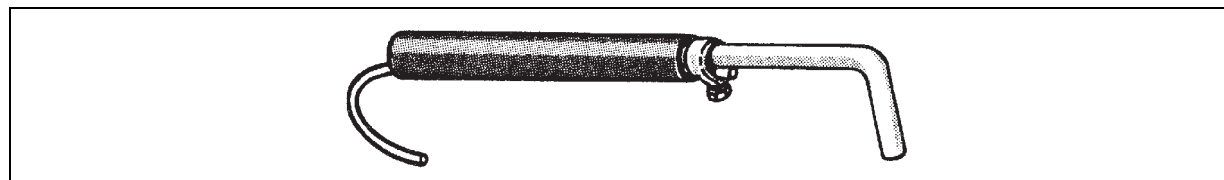

Figure D-3. Static Discharge Wand and Hook
- Bend the last two inches of the rod 90 degrees to form a hook to connect to the helicopter cargo hook (figure D-3).